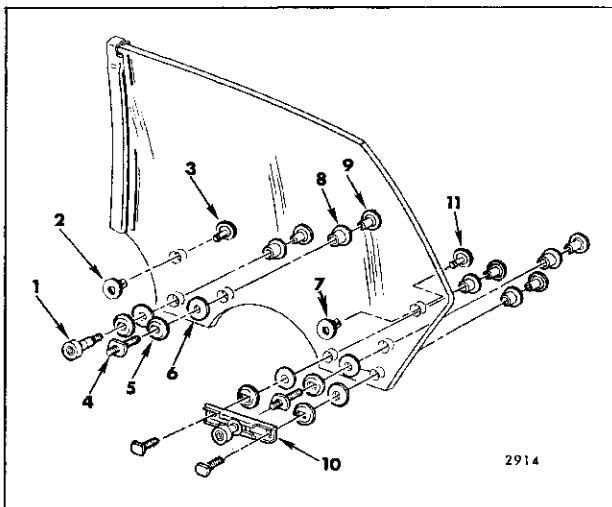

Fig. 6-91—Rear Door Window Assembly - "A-39" Styles
Figure 6-91 is an exploded view of the window assembly and identifies the various components and their assembly sequence.
- Fore-and-aft adjustment of the window assembly is controlled by the position of the front guide. The upper attaching locations in the front guide upper support ("11", Fig. 6-81) are slotted to permit fore-and-aft adjustment of the guide. Because of the free floating roller in the window rear sash channel cam (Fig. 6-91) the rear guide does not have to be adjusted during fore-or-aft window alignment.